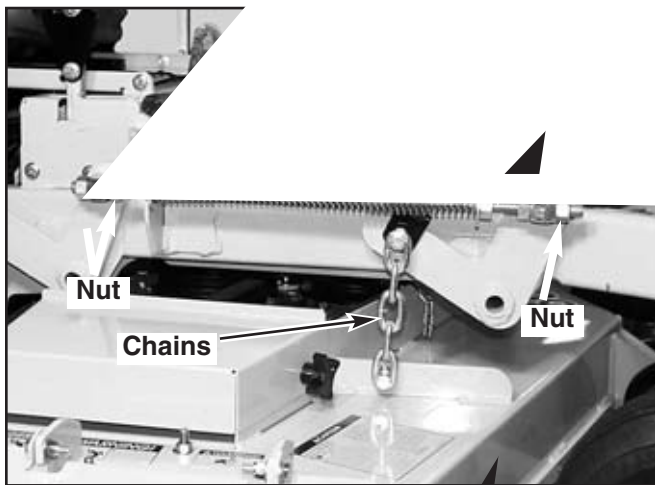

Figure 5-18
6. Loosen all nuts on the deck lift threaded rods, and the hardware on the adjuster (on the front), until **all** the deck lift chains are loose. The deck is sitting tightly on all four blocks. Fig. 5-18, 5-19
7. Loosen the two nuts on the height indicator so that the foot pedal is free. Fig. 5-18
20. Make sure that there is still slack in the chain. If not, loosen the two nuts on the block holding the threaded rod until there is slack in the deck lift chain. Fig. 5-18